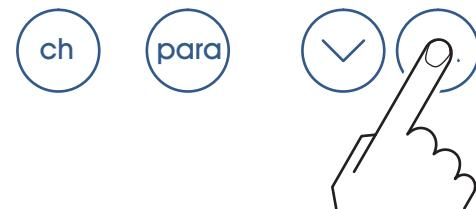

Fig. 4-4 Press the UP button for 1 second
- 2 Keep the UP button pressed for approximately 1 second. See Fig. 4-4, Fig. 17.